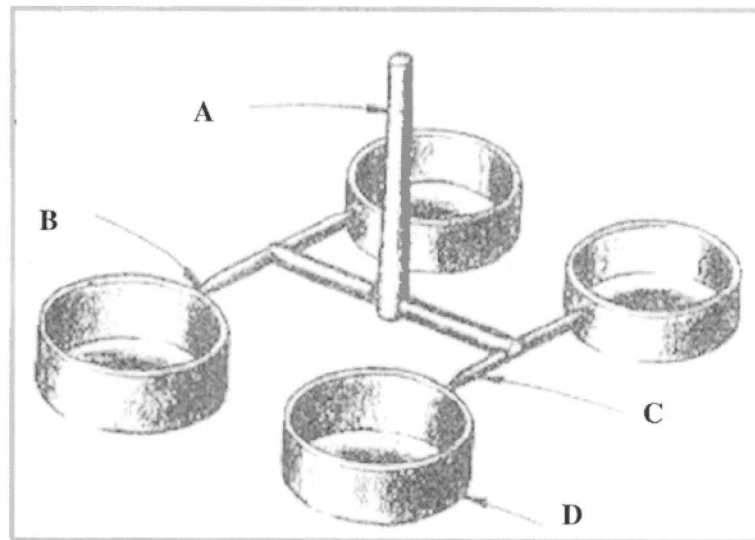

FIGURE S4
- (b) Refer **Figure S4**, list all the major part in Injection Mould Component